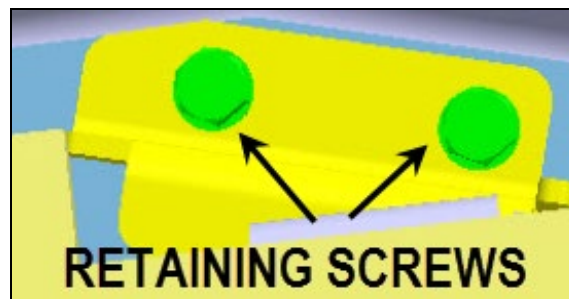

Fig.4
6. *Partially* unscrew (about half way) the two mechanisms retaining hex screws (Fig.4).